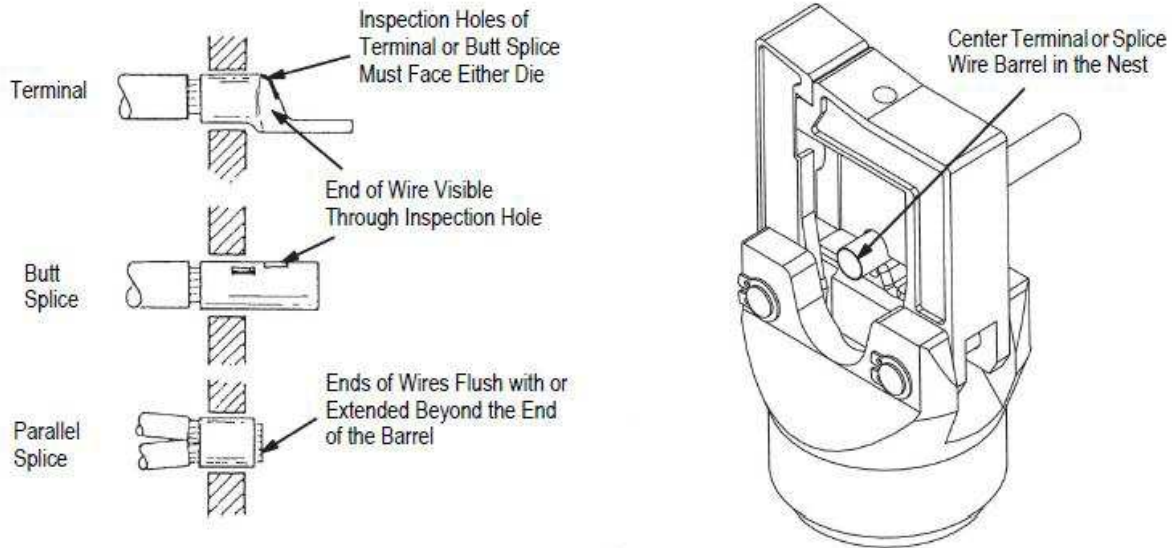

Figure 3
- Center terminal or splice in the nest as shown in Figure 3. For best results, when brazed seam on terminal or splice is visible, position seam toward indenter.